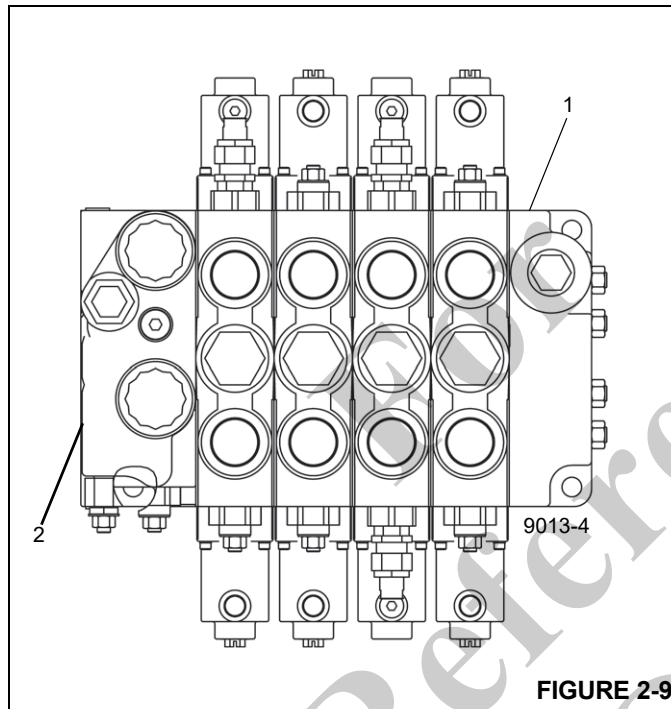

FIGURE 2-9
1. With the engine off, install a pressure check diagnostic quick disconnect (Parker PD240) with gauge onto the test nipple at the GP gauge port (2) of the directional control valve (DCV) (1). See Figure 2-9.
With the engine off, install a pressure check diagnostic quick disconnect (Parker PD240) with gauge onto the test nipple at the GP gauge port of the directional control valve (DCV) (see Figure 2-9).